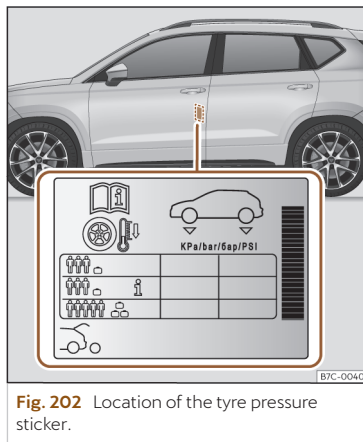

Fig. 202 Location of the tyre pressure sticker.
- Adjust tyre pressure to the load being carried by the vehicle >>> **Fig. 202**.
The values of the tyre pressure are shown on the sticker label located on the rear frame of the front left door >>> **Fig. 202.**
The tyre pressure must be adjusted according to the load the vehicle is carrying. If the vehicle is going to be fully loaded, increase the tyre pressure to the maximum load value shown on the sticker label >>> **Fig. 202.**
In the case of a minimised temporary spare wheel (125/70 R16 or 125/70 R18) inflate to a pressure of 4.2 bar as indicated on the tyre pressure label >>> **Fig. 202.**
Depending on the vehicle, tyre pressure can be adjusted to medium load to improve driving comfort (tyre pressure **i**) >>> **Fig. 202.** When driving with comfort tyre pressure fuel consumption may increase slightly.
- The driver is responsible for ensuring that all of the vehicle tyres are correctly inflated to the right pressure. The recommended tyre pressure is indicated on the label >>> **Fig. 202.**
- Tyre pressure should be that indicated on the label when the tyres are cold at all times >>> **Fig. 202.**